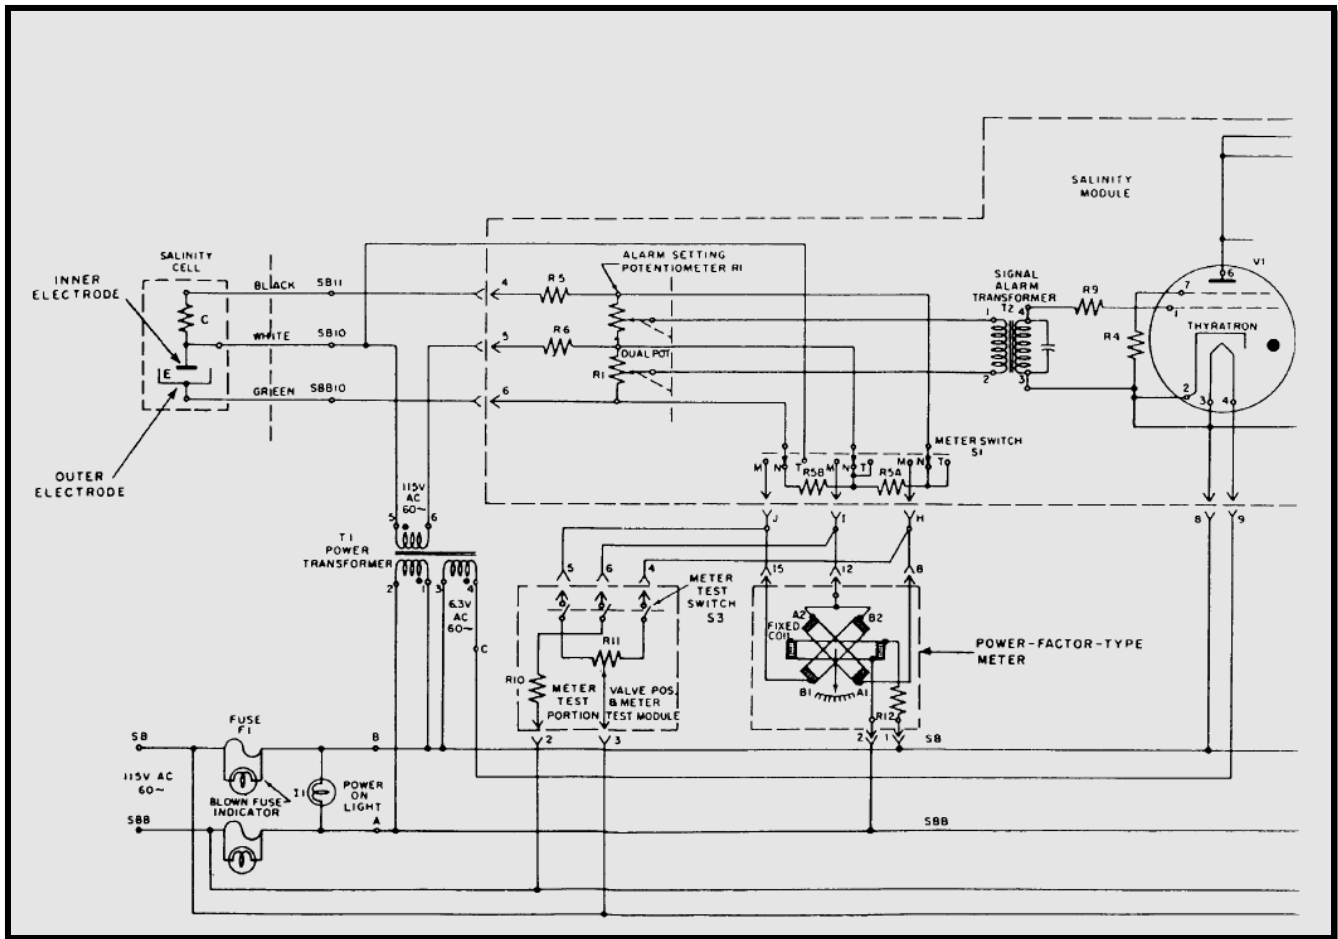

Figure 10-75.— Schematic diagram of the salinity indicator system.
**POWER UNIT.**— The ship's 115-volt, 60-Hz power is applied to the salinity indicator panel through the power unit (fig. 10-75). The power unit is not a plug-in type, but is wired directly onto the panel. It is provided with a white power-on indicator lamp, two fuse holders, and two blown-fuse indicators. The two fuses protect only the salinity cell and the alarm circuit wiring. The power circuits to the solenoid-operated control valves are not fused.